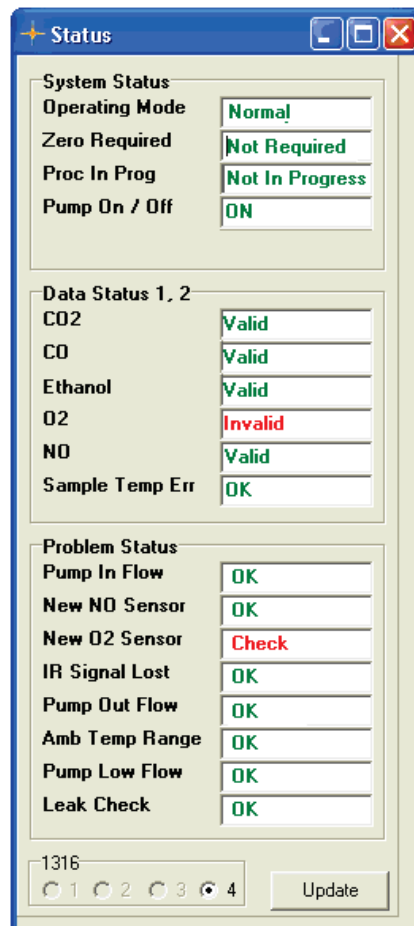

Figure 4.14 The Status window displaying that a new  $O_2$  sensor is required.
- 2) If the New O2 Sensor is required see the Status window figure 4.14, install a new O2 sensor. Order number VM0200A.